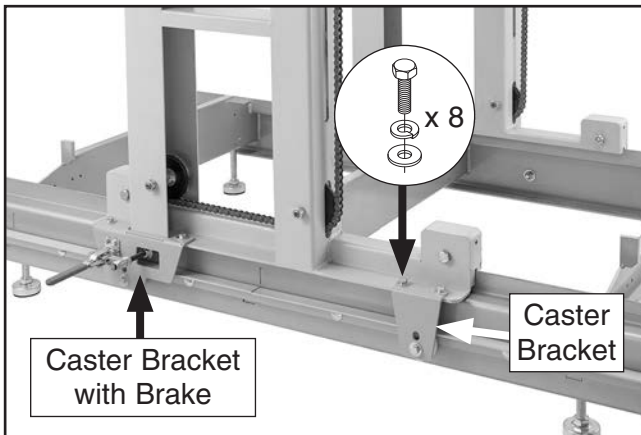

Figure 18. Caster brackets installed on carriage.
17. Attach caster bracket with brake to left-rear corner of carriage with (2) M8-1.25 x 16 hex bolts, 8mm lock washers, and 8mm flat washers (see **Figure 18**).
18. Attach each remaining caster bracket to remaining corners of carriage with (2) M8-1.25 x 16 hex bolts, 8mm lock washers, and 8mm flat washers (see **Figure 18**).